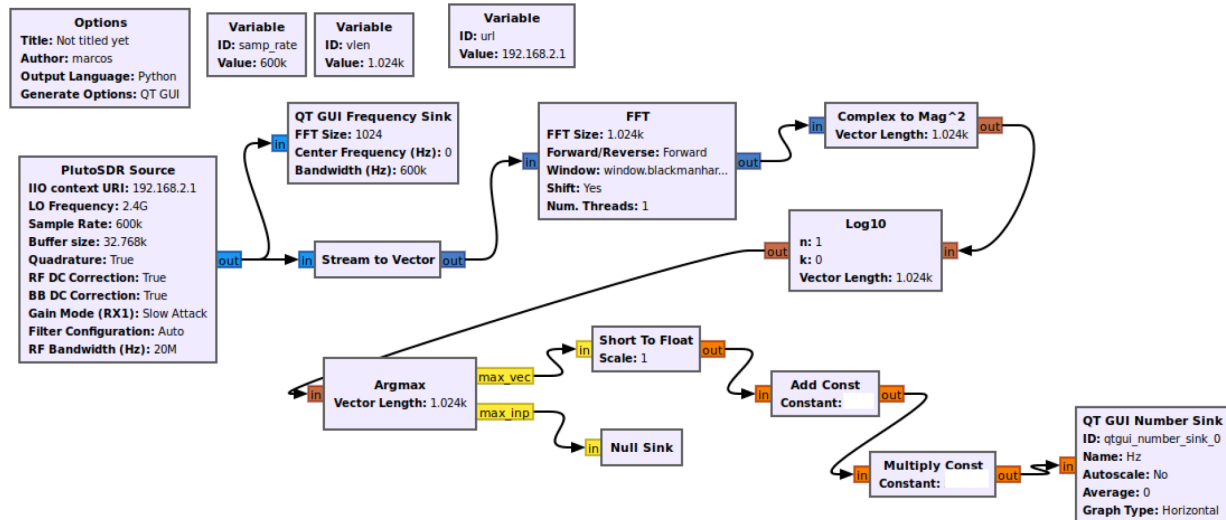

Figure 3
Automated estimation of the SFO is preferred over manual estimation, especially when testing numerous digital systems. Automated estimation ensures consistency and efficiency, minimizing the risk of human error and saving time during testing. Figure 3 illustrates this process, with each block explained as follows:
1. Create a receiver GRC file similar to Figure 3. Enter the parameters as it was indicated previously. You can use the transmitter GRC file from Figure 1a. Plot the results obtained. What is the error value you obtained?
6. Describe in your own words how the flowgraph depicted in Figure 3, (from PlutoSDR Source Block to QT Number Sink Block), calculates the SFO.